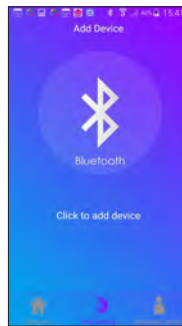

fig.2
Step 4. Select the access mode and enter wi-fi and Bluetooth® info as needed (fig.2).